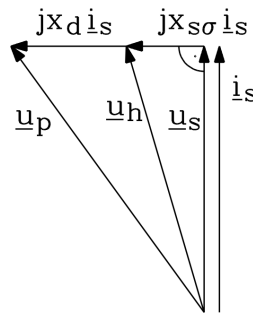
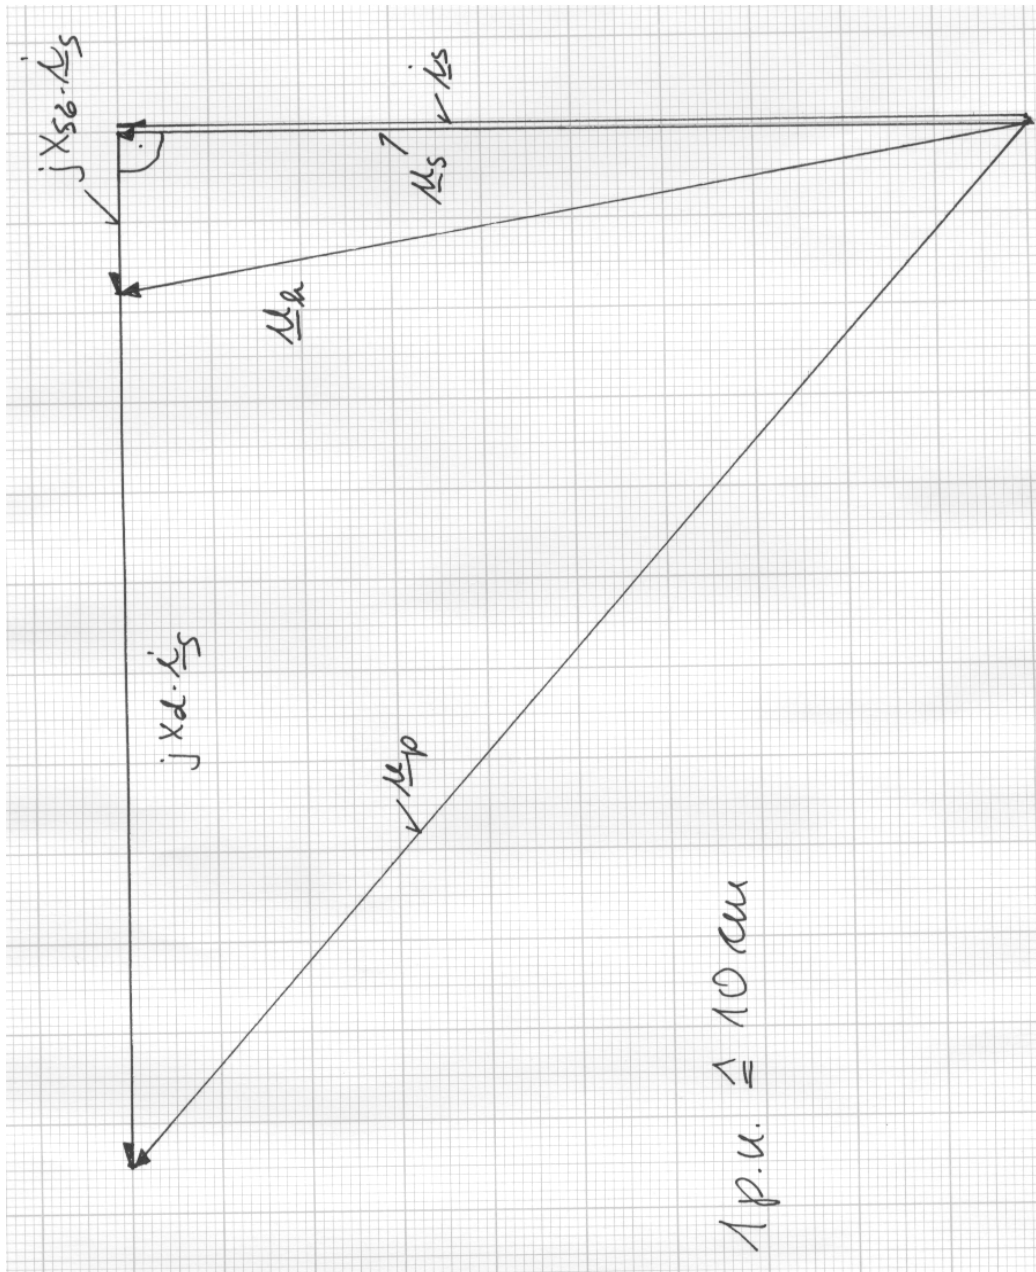

Fig. 3.1-1: Voltage diagram at unity power factor, generator arrow system
Fig. 3.1-3: Voltage diagram for hydro generator at unity power factor, generator arrow system
Voltage diagram at unity power factor and neglected stator resistance: Fig. 3.1-1, Fig. 3.1-3.
4) From Fig. 3.1-1 we calculate: